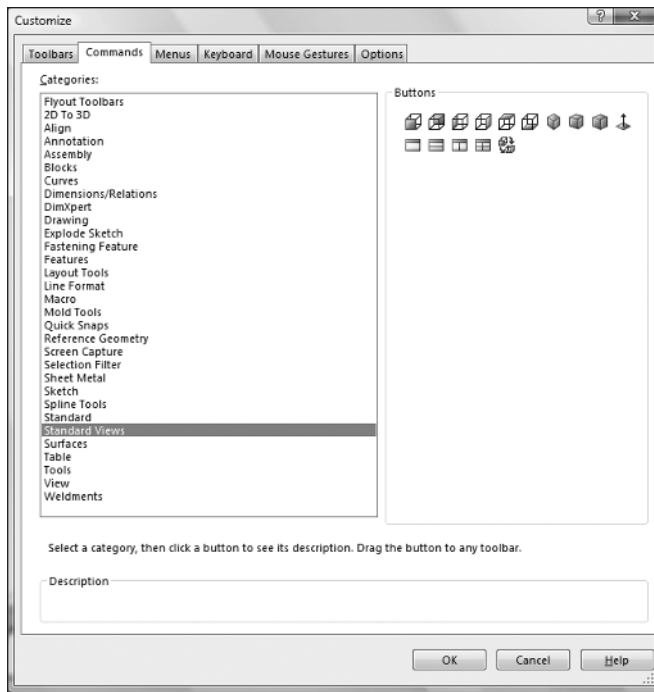

FIGURE 1.3 Commands tab in the Customize window
3. In the Categories section of the window, locate your desired tool set. For this example, select Standard Views in the Categories section. The tools included in the selected category will be displayed in the Buttons section, as shown in Figure 1.3.